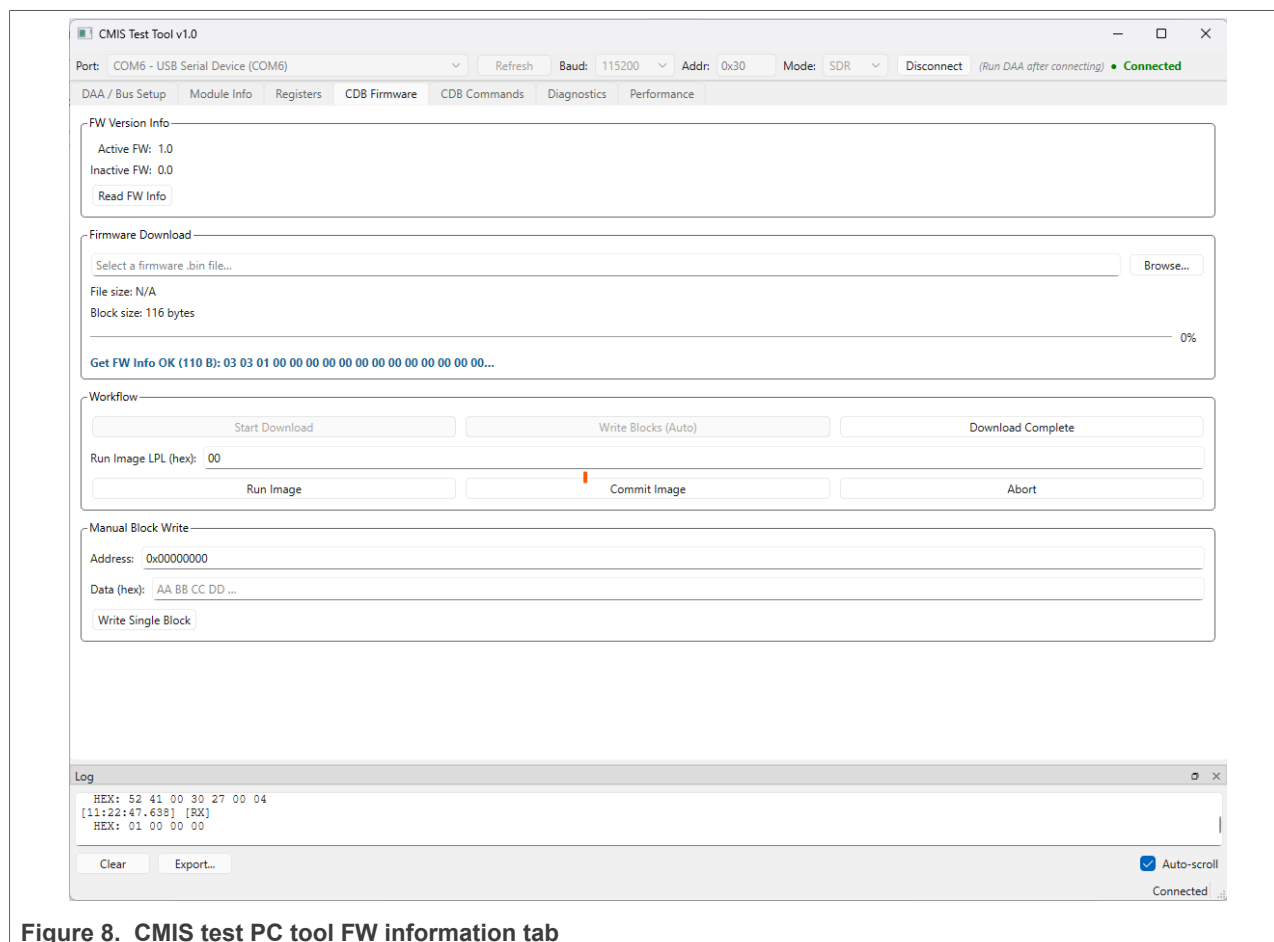

Figure 8. CMIS test PC tool FW information tab
6. Read firmware information by opening the **CDB Firmware** tab and clicking **Read FW Info**, and confirm successful communication when a message such as `Get FW Info OK (110B...)` is displayed, as shown in Figure 8.